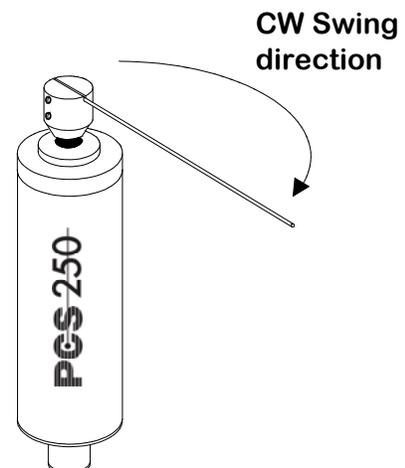

Figure 2: CW swing direction
- a) Preference for clockwise (CW) or counter clockwise (CCW) swing direction. The Sensor is capable of swinging up to 300° CW or CCW (direction set via switch on Control). Swing direction (CW/CCW) is established by looking at the Sensor with the Swing Arm Assembly (or shaft) facing you, as shown in Figure 2.